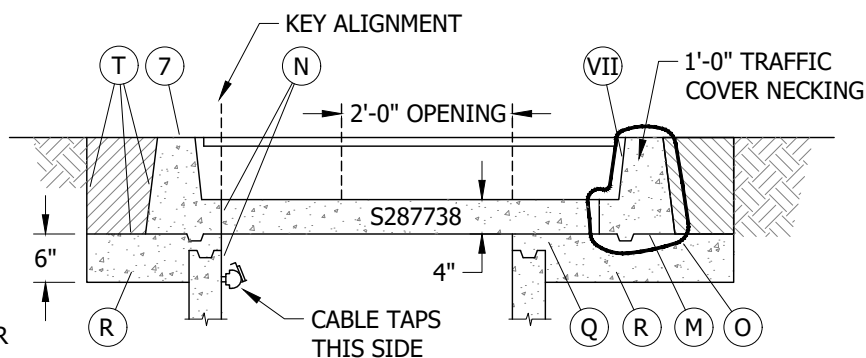

FIGURE 11
- (M) BEFORE SETTING TRAFFIC COVER NECKING, PAINT THE UNDERSIDE WITH PRIMER. THIS WILL REDUCE ANY REMOVAL DIFFICULTIES IN CASE OF RETROFIT OR GRADE ADJUSTMENTS. SEE FIGURE 11.
- (N) SET THE TRAFFIC COVER USING THE INSIDE LIFTING ANCHORS TO PREVENT ANY PROBLEMS REMOVING THE LIFTING DEVICE. LINE UP THE INSIDE EDGE OF THE TRAFFIC COVER NECKING WITH THE INSIDE EDGE OF THE HANDHOLE INTERMEDIATE SECTION ON THE SAME SIDE THE CABLE TAPS ARE LOCATED. IF HANDHOLE DOES NOT HOUSE CABLE TAPS, ALIGN THE INSIDE EDGE OF THE 3315 HANDHOLE TRAFFIC COVER NECKING WITH THE INSIDE EDGE OF THE INTERMEDIATE HANDHOLE SECTION ON THE STREET SIDE. THIS IS THE KEY ALIGNMENT TO THE ENTIRE INSTALLATION. SEE FIGURE 11.
- (O) IF ANY OF THE TRAFFIC COVER NECKING WILL BE SET IN CONCRETE (ALONG A CURB OR IN A CONCRETE STREET), WRAP 4 OR 6 MIL POLYETHYLENE SHEETING COMPLETELY AROUND THE NECKING AND TIE WITH TAPE. THIS WILL PREVENT EXISTING CONCRETE AND NEW CONCRETE FROM BONDING MAKING IT EASIER TO RAISE COVER IN THE FUTURE. SEE FIGURE 11.
- (Q) ALIGN TRAFFIC COVER NECKING TO GRADE USING BRICKS OR WOODEN WEDGES. POUR CONCRETE (4-SACK MIX WITH 3/8 INCH PEA GRAVEL OR AS REQUIRED BY CITY OR COUNTY CODES) INSIDE OF NECKING AND INTO THE OVERLAPPING AREA OF SECTIONS. SMOOTH CONCRETE WITH GROUT AND TROWEL. SEE FIGURE 11.
- (R) ON THE OUTSIDE OF THE NECKING, POUR AND PACK CONCRETE UNDERNEATH WITH A SHOVEL UP TO THE BOTTOM OF THE NECKING AND UP TO FINAL GRADE LEVEL AT THE CURB. SMOOTH OUT ANY EXCESS CONCRETE COMING THROUGH ON INSIDE OF HANDHOLE. TRIM AWAY EXCESS PLASTIC SHEETING. SEE FIGURE 11.